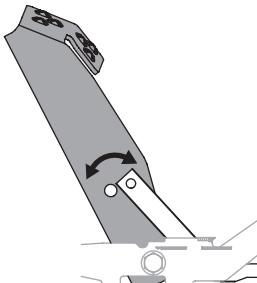

Figure 37
- Position the pedal to the optimal position based on operator preference. See Figure 37.